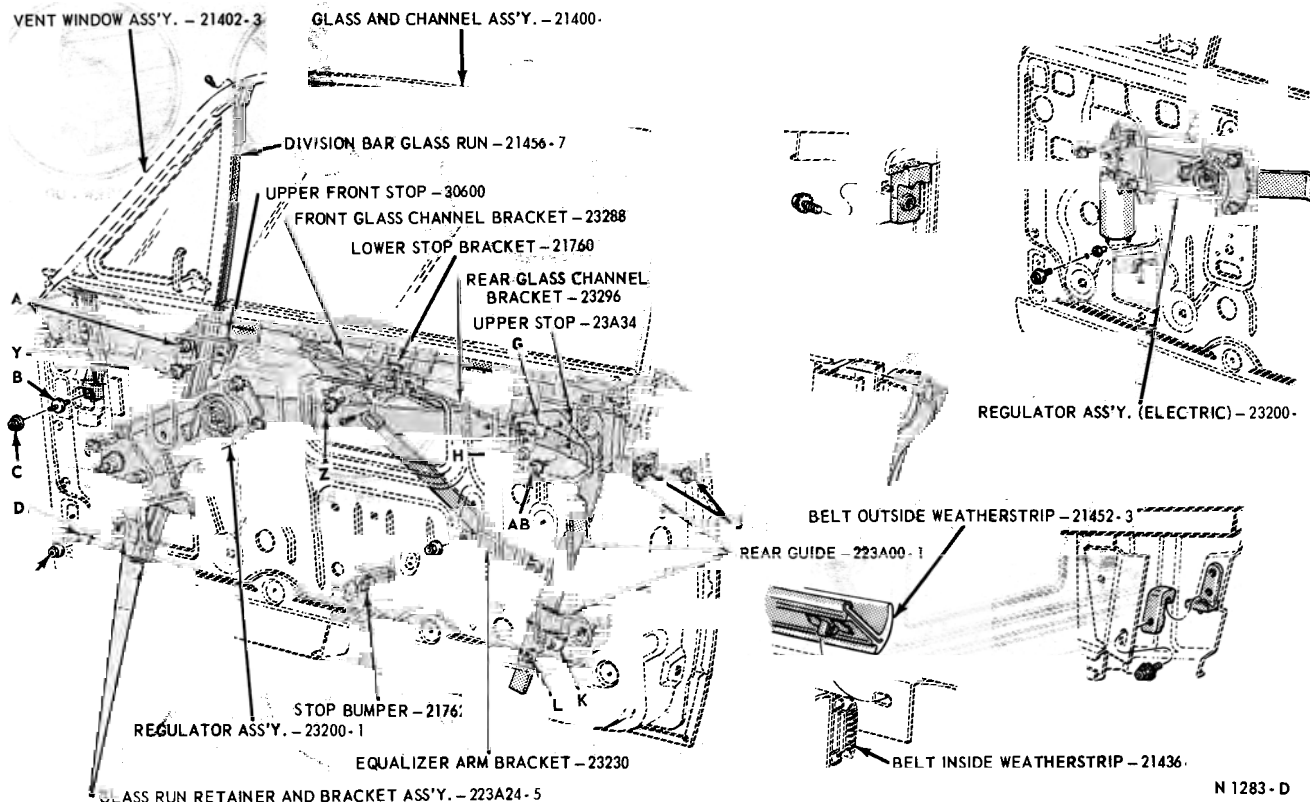

FIG. 2—Door Window Mechanism—Comet, Fairlane Models 63, 76
2. Loosen screw and washer assemblies A, J, Z and AB, also nuts C, E and L (Fig. 2).